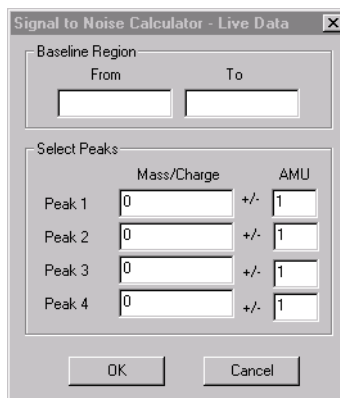

Figure 6-14 Signal to Noise Calculator
3. In the Signal to Noise Calculator dialog box (Figure 6-14), set the Baseline Region by doing one of the following: